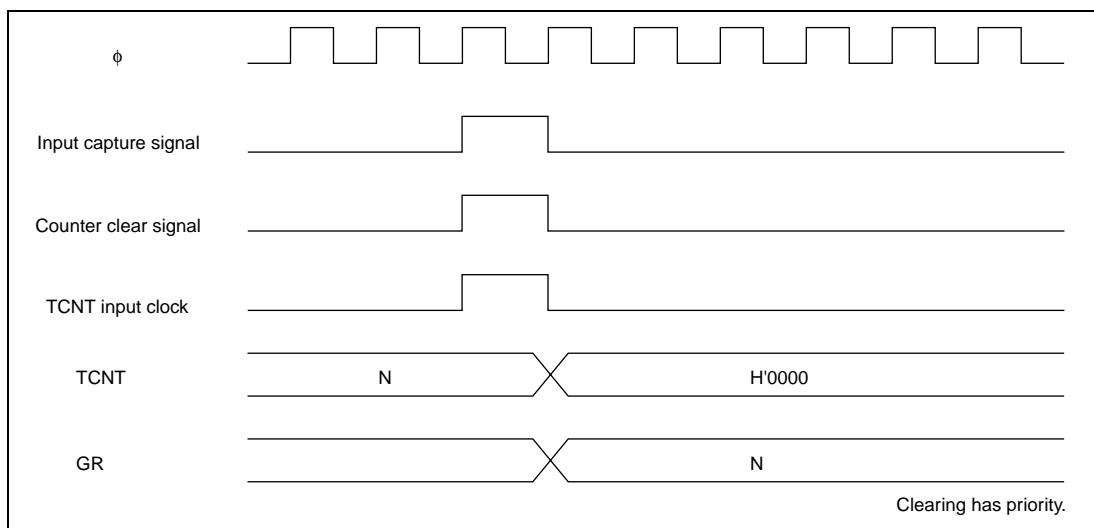

Figure 13.57 Contention between Count Clearing and Increment Operations by Input Capture
6. Contention between Count Clearing and Increment Operations by Input Capture: If an input capture and increment signals are simultaneously generated, count clearing by the input capture operation has priority without an increment operation. The TCNT contents before clearing counter are transferred to GR. Figure 13.57 shows the timing in this case.